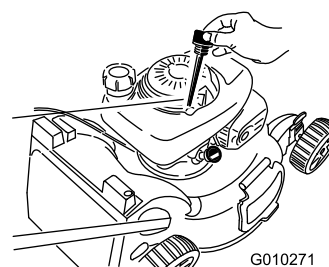

Figure 38
2. Retirez la jauge (Figure 38).